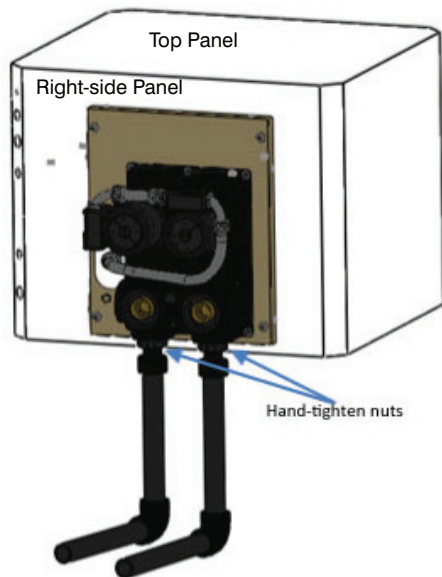

Fig. 6 — Insertion of Pipe Risers Into Flow Center
- Replace unit, attaching the double O-ring fitting into bottom of flow center. See Fig. 6. Care must be taken to ensure the O-rings do not get pinched, or roll out of the O-ring groove on the fittings.
- Hand-tighten the nuts to secure the fittings to the flow center (see Fig. 6 And 7).